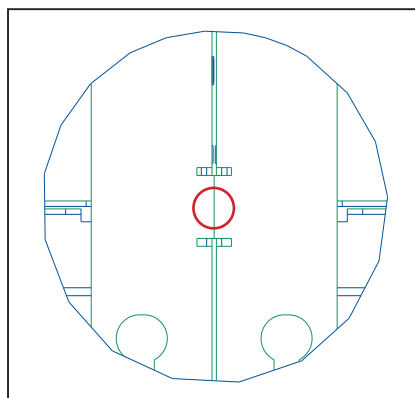

Figure 8: Ensure Alignment Tabs Are Flush & Even
3. Ensure the alignment tabs are flush and even with each other. Refer to **Figure 8**. Tighten the stitch bolts to lock the tabs into place.